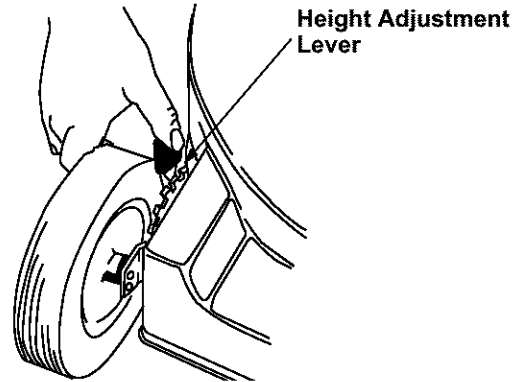

Figure 12
- Simply depress the lever towards the wheel and move the lever assembly to desired position. See Figure 12.